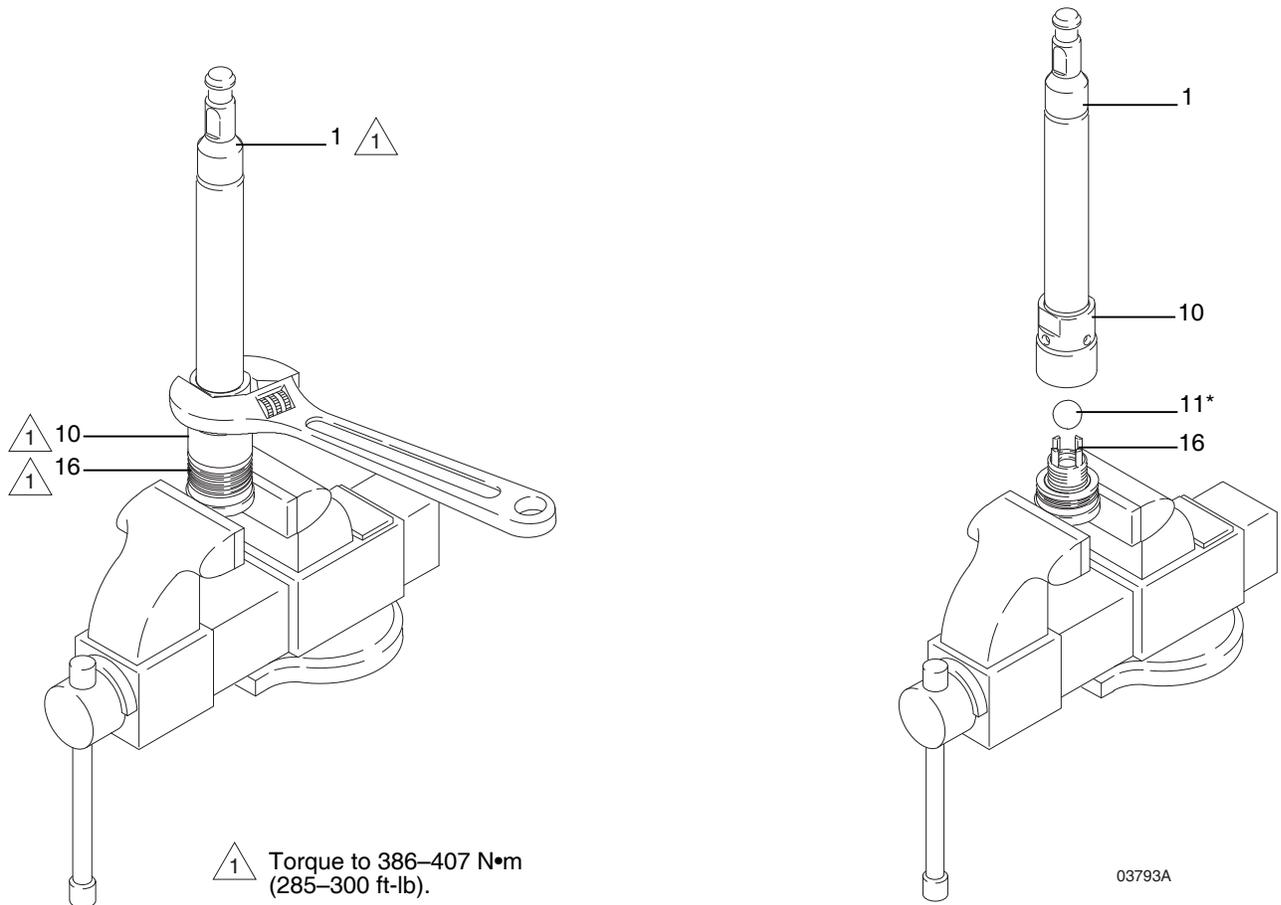

FIG. 4
- c. Unscrew the cylinder (9) from the outlet housing (7), using a pipe wrench.
- d. Remove the two seals (8) from the cylinder. Shine a light into the cylinder (9) to inspect the inner surface for scoring or wear.
- a. Unscrew the cylinder (9) and valve housing (18) from the outlet housing (7).
- b. Gently pull the cylinder and valve housing straight out of the outlet housing; the displacement rod (1) and piston assembly will come out with these parts.
- c. Place the valve housing (18) in the vise and unscrew the cylinder (9) from the housing, using a pipe wrench. The displacement rod (1) and piston assembly will remain in the cylinder.
- d. Using a rubber mallet, drive the displacement rod (1) and piston assembly out of the cylinder (9) until the piston comes free. Pull the rod and piston from the cylinder, being careful not to scratch the parts.
- e. Remove the two seals (8) from the cylinder. Shine a light into the cylinder (9) to inspect the inner surface for scoring or wear.
4. Place the flats of the piston seat housing (16) in a vise, as shown in FIG. 4, page 15.
5. Using an adjustable wrench, unscrew the piston ball housing (10) from the piston seat housing. Be careful to catch the piston ball (11) as you separate the piston seat housing and ball housing, so that it does not fall and suffer damage.
6. Examine the displacement rod (1) for scratches or other damage. Only if the rod needs replacement, unscrew it from the piston ball housing (10), using an adjustable wrench on the flats of the rod.
3. Place the flats of the piston seat housing (16) in a vise.
4. Place the ball (11\*) on the housing and apply anti-seize (20\*) to threads. Screw the piston ball housing (10) onto the piston seat housing hand tight, then torque to 386–407 N•m (285–300 ft-lb). See FIG. 4, page 15.